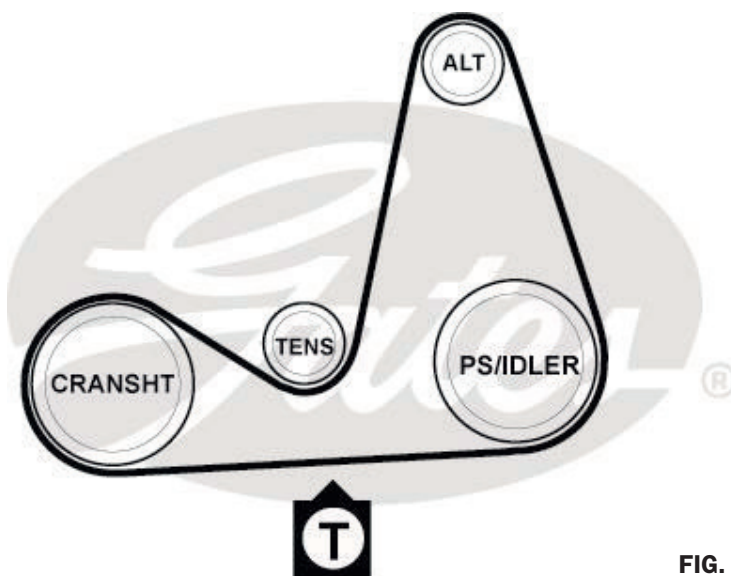

FIG. 1
8. Tension the belt: the belt has to be tensioned (with tool Mot.1638, OE ref. 0000163800) to a higher tension than with the original drive set-up. Measure the tension in the bottom span, between the crankshaft and power steering pump (or idler for cars without power steering) (Fig.1).